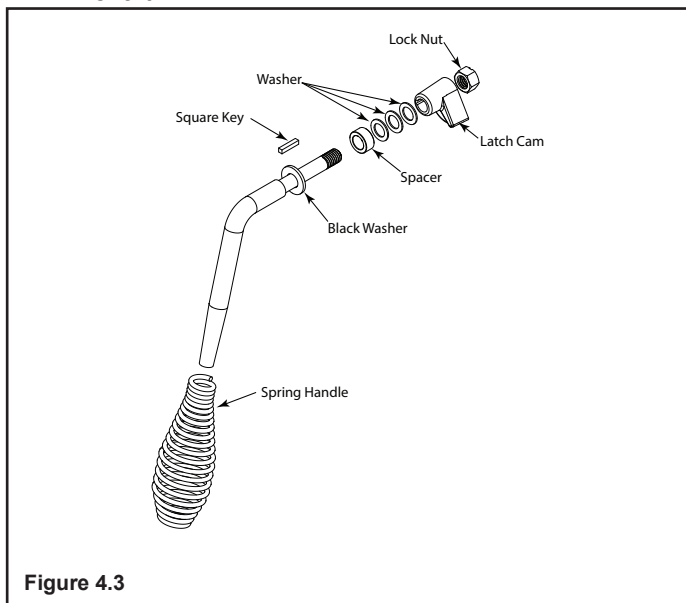

Figure 4.3
- Install washer(s) as shown in Figure 4.3.